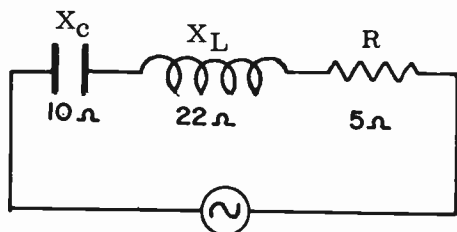

FIG. 4-32. R-L-C SERIES CIRCUIT.
**A SERIES R-L-C CIRCUIT.** The series circuit of Fig. 4-32 contains resistance, inductance and capacitance. Since the inductive reactance and the capacitive reactance act in an opposite manner to the current flow, they tend to cancel one another. If the inductive reactance is equal to the capacitive reactance, the resultant reactance will be zero. If the inductive reactance is larger than the capacitive reactance, the resultant reactance will be the difference between the two and it will be inductive. Conversely, if the capacitive reactance is larger than the inductive reactance, the resultant reactance remaining will be the difference between the two and it will be capacitive. In other words, if a circuit contains 20 ohms of capacitive reactance and 15 ohms of inductive reactance, the total reactance in the circuit is equal to 5 ohms of capacitive reactance.
**PROBLEM:** Find the impedance of a series circuit which contains a resistance of 5 ohms, an inductive reactance of 22 ohms and a capacitive reactance of 10 ohms (Fig. 4-32).
In order to calculate the source voltage, we use Ohm's Law. In the problem of Fig. 4-32, we found the impedance to be 13 ohms. Therefore: